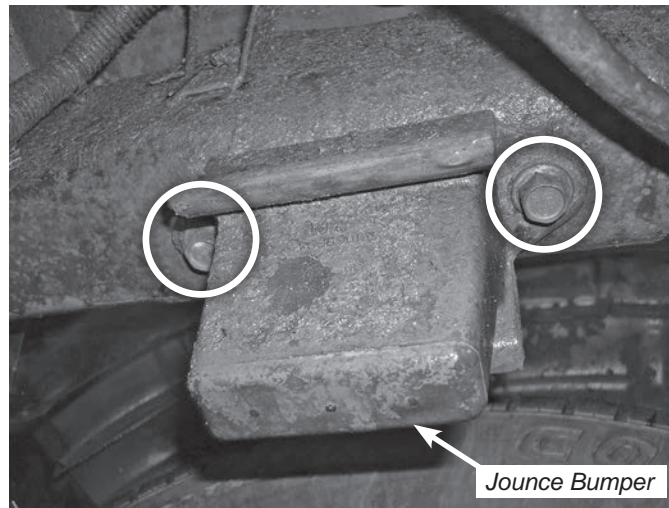

fig. 3
3. Remove the jounce bumper from under the frame rail (Fig. 3).